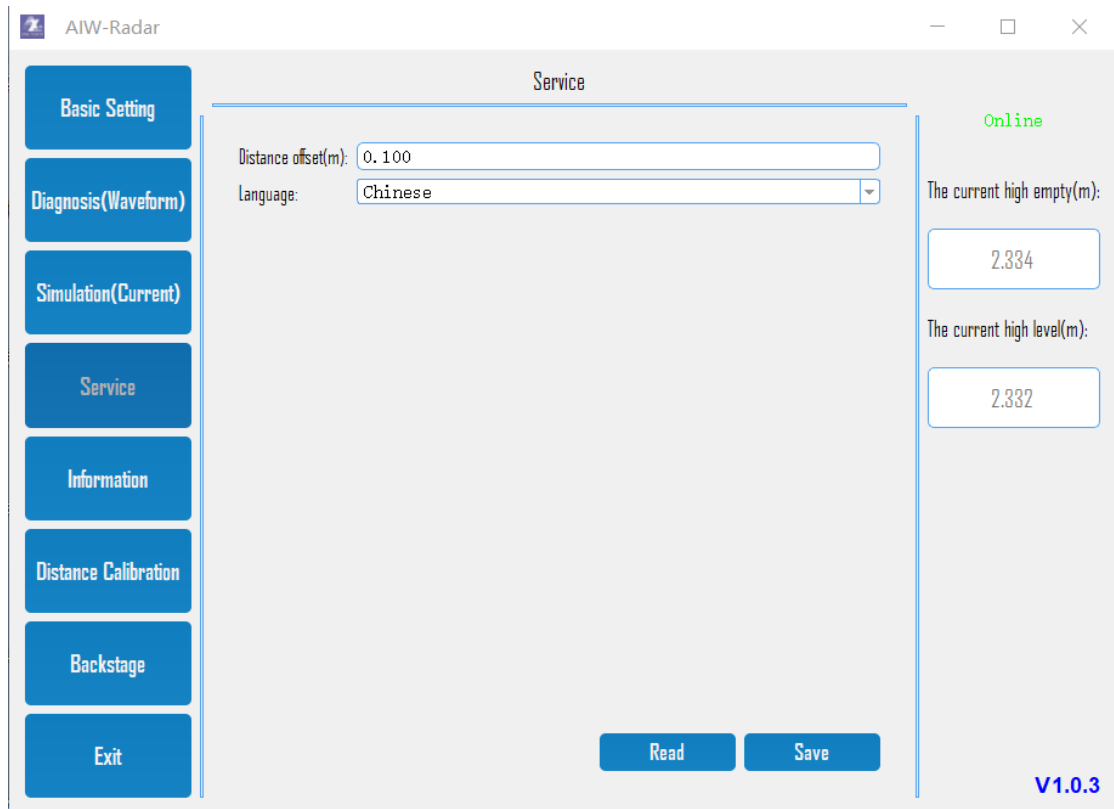

Figure 6.
7. Click on the "Service" button on the left side of the main interface, and the main interface will display service information. Including menu language, measurement unit, etc. The parameters can be modified according to the actual needs. As shown in Figure 6.